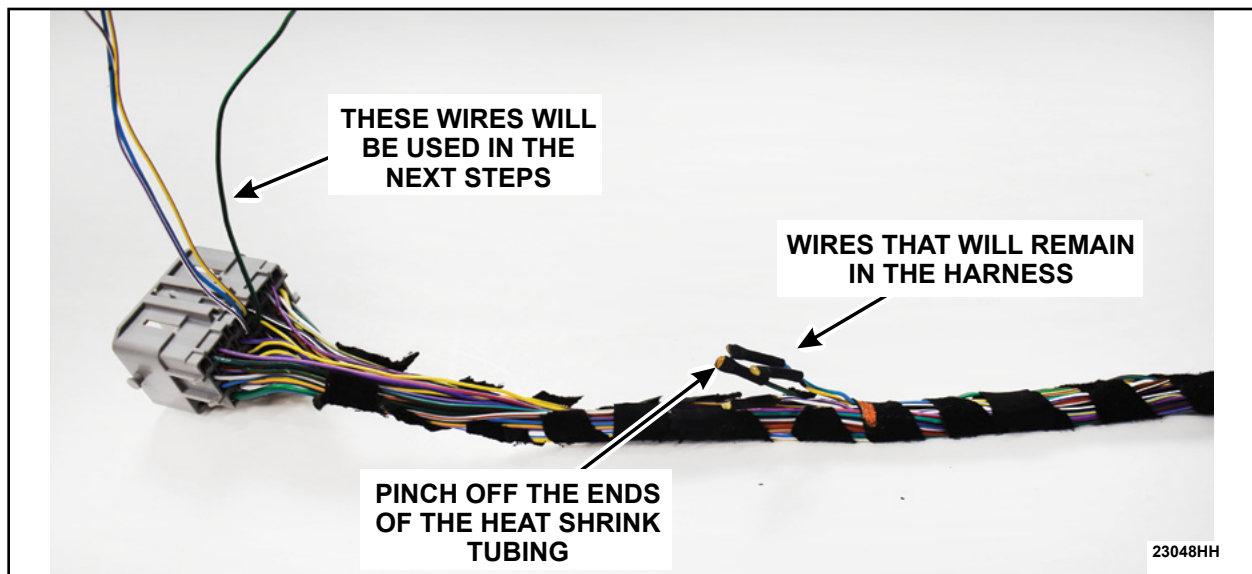

FIGURE 9
9. Apply a dual wall heat shrink tube over the ends of all four (4) wires, that will remain in the harness, and pinch off the ends. See Figure 9.